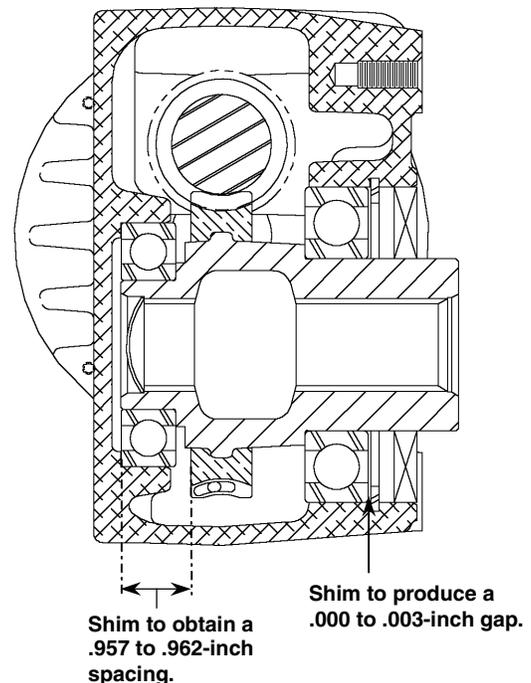

Figure 5, Shim Points
1. **If reusing the existing components**, reinstall the interior shim (item 13) and large worm gear/hub assembly (item 14) in the gearbox housing. Install the shims, spacer, and the retaining ring (items 15-18) in the order in which they were removed.
a. Use .005-inch shims (included) to obtain a .957 to .962-inch measurement between the gear face and the outside surface of the shim (see Figure 5). Push the bearing toward the gear when making this measurement. Install these components in the housing.
b. Determine the proper shimming to obtain an output hub endplay of .000 to .003 inches. To make this determination, press inward on the bearing's outer ring (evenly so as not to cock the bearing) and **measure the gap** between the ring and the outside edge of the retaining ring groove. Use a sufficient quantity of .003-inch and .005-inch shims, the .030-inch spacer (item 17), and the retaining ring (item 18), to obtain a thickness of .000 to .003 inches **less than** the gap measurement. Always install the .030-inch spacer (item 17) next to the retaining ring. Secure everything in place with the retaining ring.